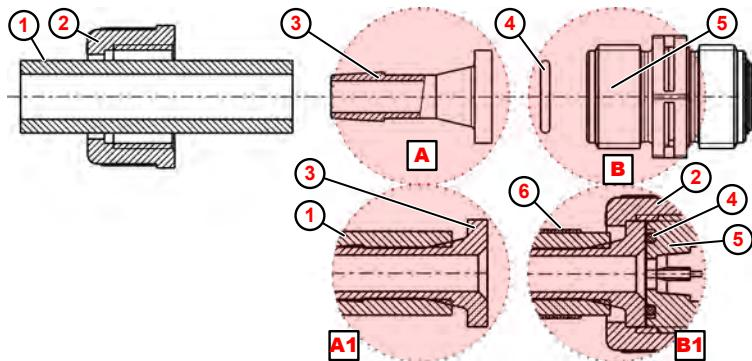

Fig. 9: Pipe and hose connection with attachment nipple and hose clamp
1. Cut off the hose with a straight cut (Fig. 9 , ①).
2. Slide the hose clamp ⑥ over the hose ①
3. Slide the union nut ② over the hose ① .
4. Slide the hose ① onto the attachment nipple ③ up to the stop collar (for details, ⑧).
5. Place the o-ring ④ in the groove of the suction or pressure valve ⑤ .
6. Tighten the union nut ② .
7. Push the hose clamp ⑥ downward and tighten (for details, ⑩).